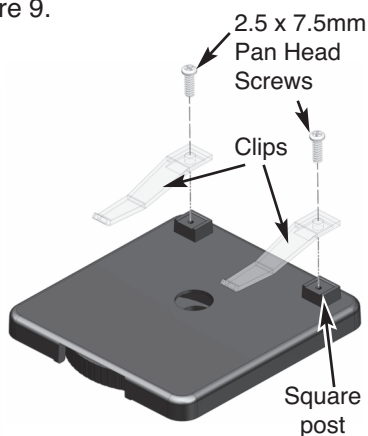

Figure 9
- ❑ Mount the clips onto the square posts using 2.5 x 7.5mm pan head screws, as shown in Figure 9.